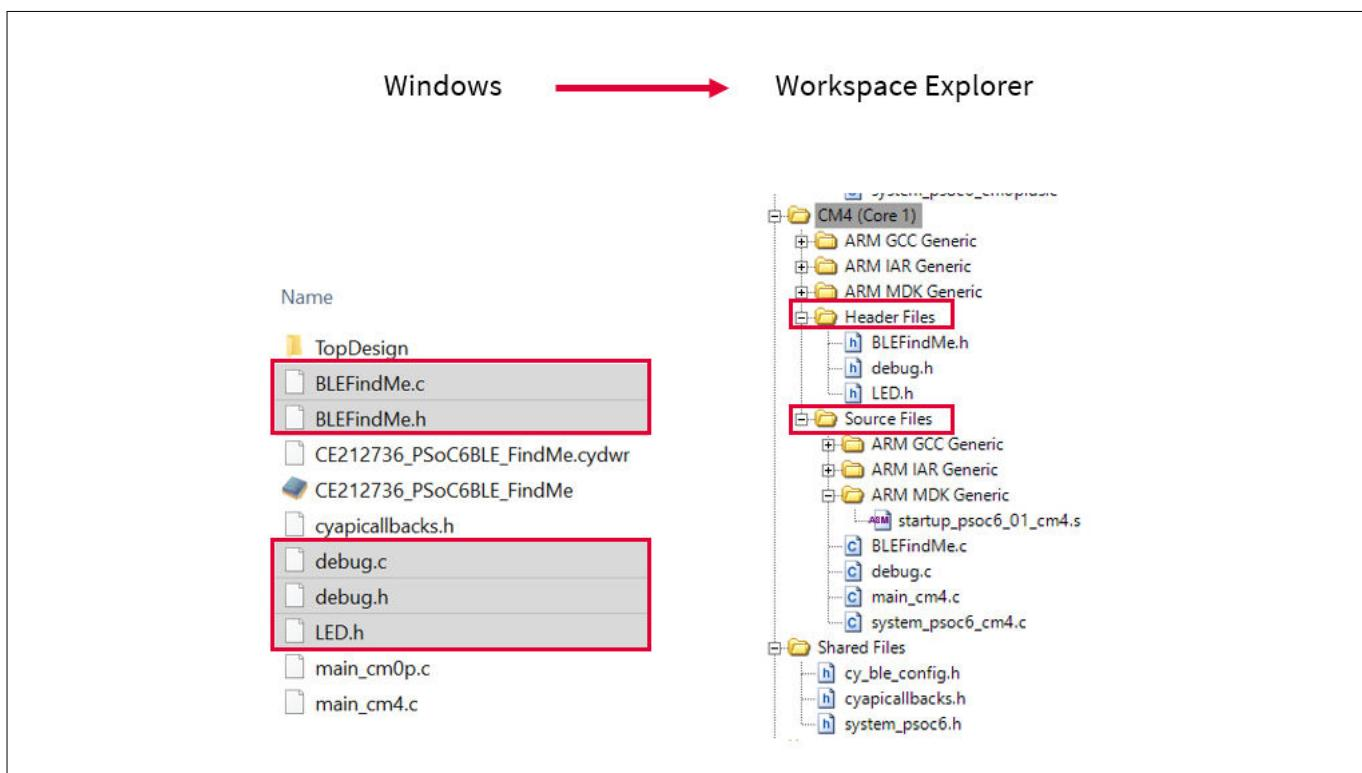

Figure 104 **Add files to your project**
- Add these files to your project. You can do this by dragging them from the *Windows* folder onto the Workspace explorer, and dropping them in the *CM4* folder location in the workspace. See Figure 104